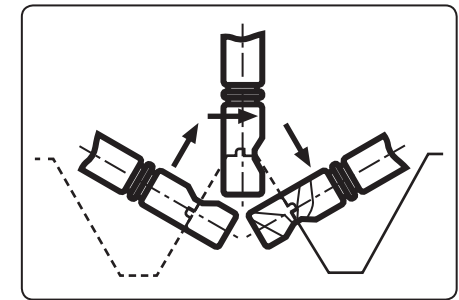

Fig. 4
- For cutting corrugated metal sheets, the nibbler must be positioned perpendicular to the metal plate and guided in the direction of the corrugations (fig. 4).